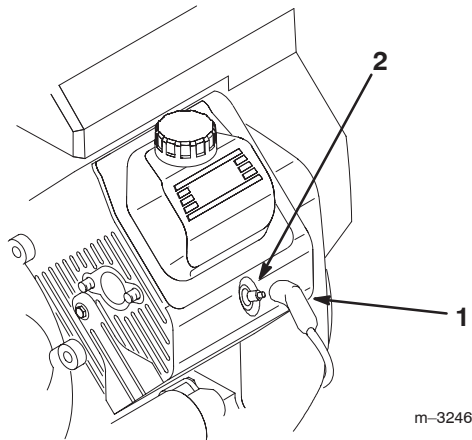

Figure 58
- 3. Pull the wires off the spark plugs (Fig. 58).
- Push the wires onto the spark plugs (Fig. 58).